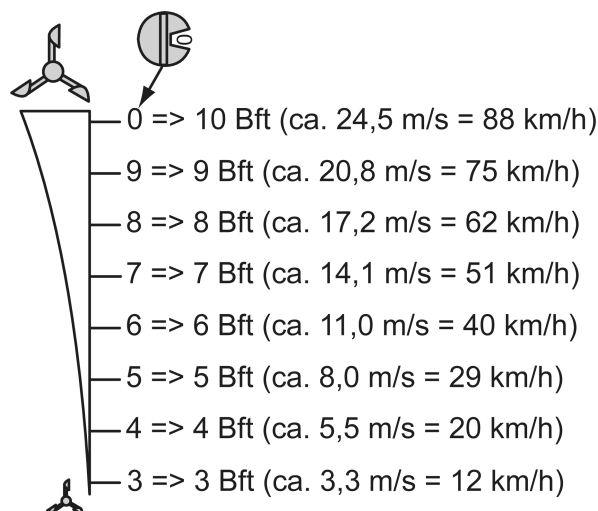

Figure 5: Wind speed setting
- Using the rotary switch (9), set the wind speed at which the blind/shutter is to move to the protected end position (see figure 5).